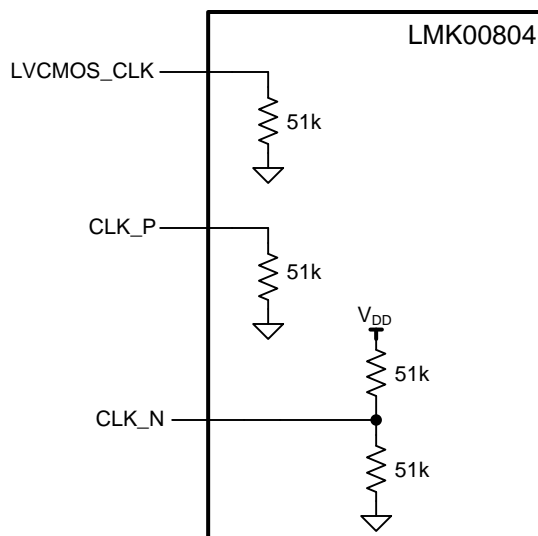

Figure 12. Clock Input Components
- **CLK_P/CLK_N Inputs:** See Figure 12 for the internal connections. When using a single-ended input, take note of the internal pullup and pulldown to make sure the unused input is properly biased. To interface a single-ended input to the CLK_P/CLK_N input, the configuration shown in Figure 14 is recommended.
- **LVC MOS_CLK Input:** See Figure 12 for the internal connection. The internal pulldown (PD) resistor ensures a low state when this input is left floating.